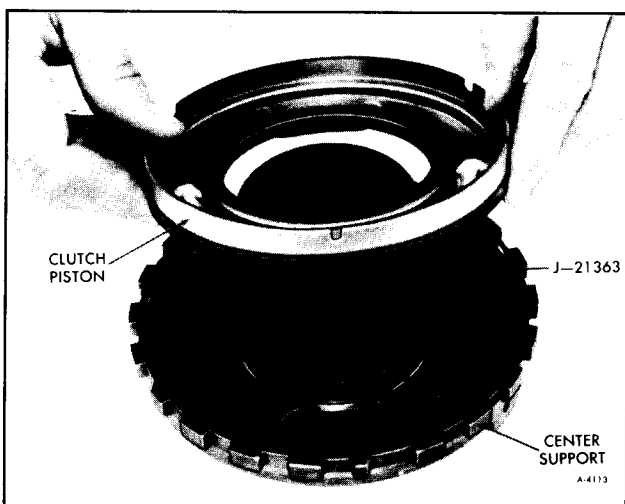

Figure 66—Installing Intermediate Clutch Piston
2. Place Intermediate Clutch Inner Seal Protector, J-21363, over center support hub and install intermediate clutch piston. Figure 66.